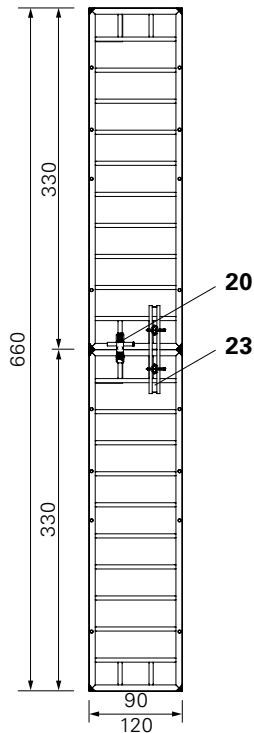

Fig. B1.08a
With extension heights > 5.40 m, the Alignment Coupler BFD (20) and Compensation Waler TAR 85 (23) are used on the panel joints. (Fig. B1.08a + B1.08b + B1.08c)